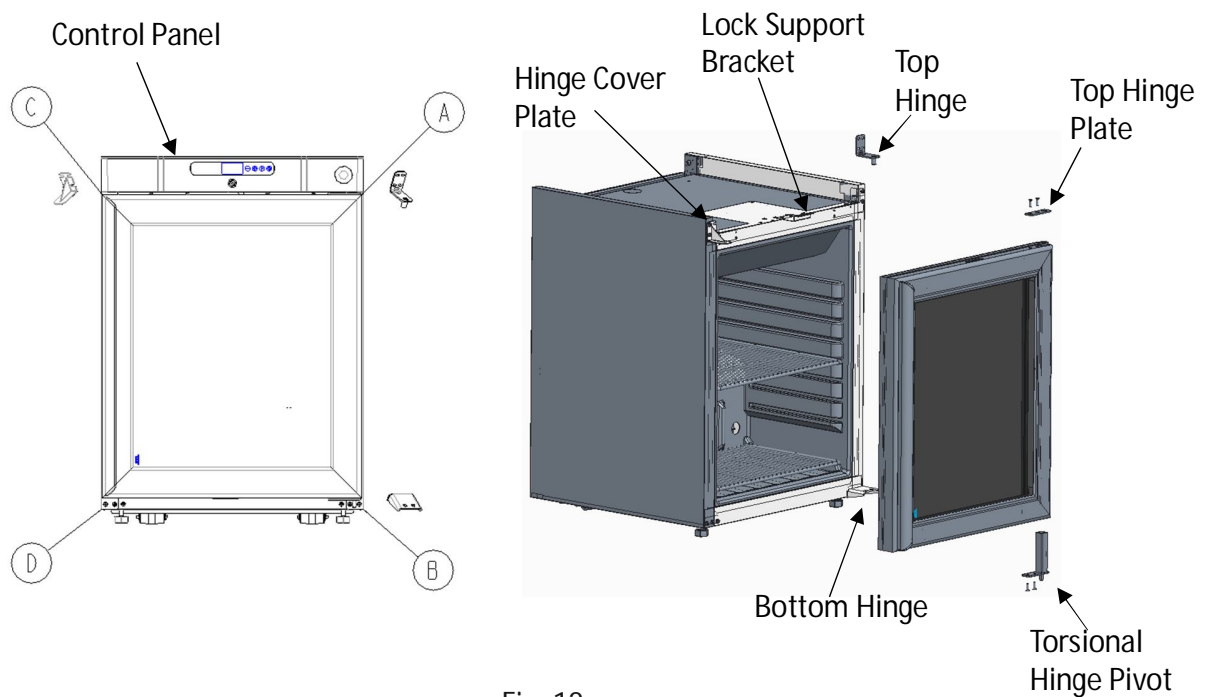

Fig. 12
2. Remove screws of condenser coil as shown in figure 12